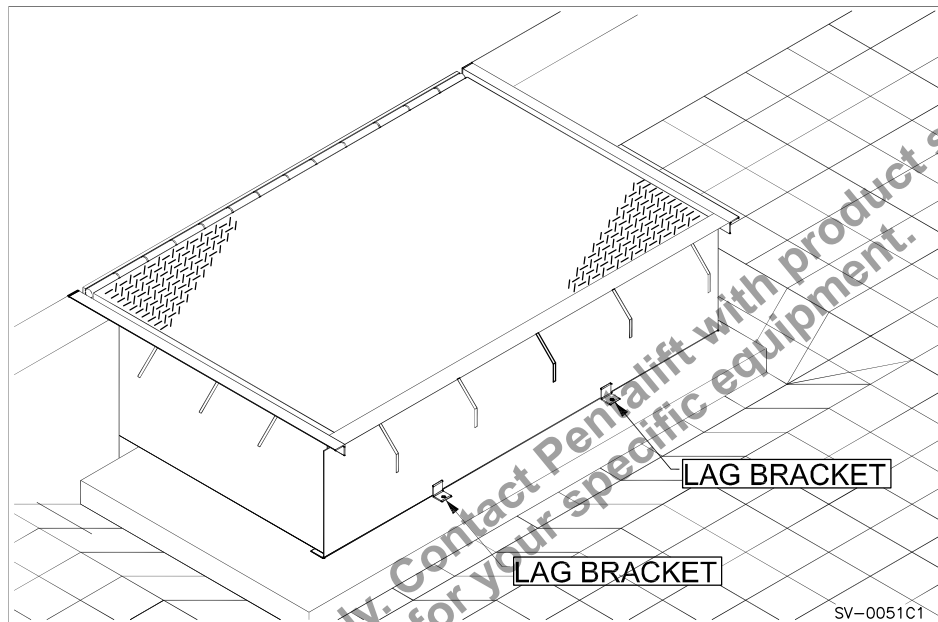

Figure 42: Dock Leveler in Position
3. \_\_\_ Position the dock leveler into the foundation cutout (see “Figure 42: Dock Leveler in Position” on page 34).
6. \_\_\_ Securely brace the dock leveler to prevent any movement or “floating” during the pouring of the concrete. Use lag bolts in the provided lagging brackets to assist in securing the dock leveler (see “Figure 42: Dock Leveler in Position” on page 34). Note that these brackets are intended to assist in bracing the dock leveler and that consideration and use of additional supporting means may be required. Prior to installing the lags confirm that if shims are utilized the lag bolt length is increased to accommodate for the shimming, allowing proper and sufficient lag penetration into the concrete.